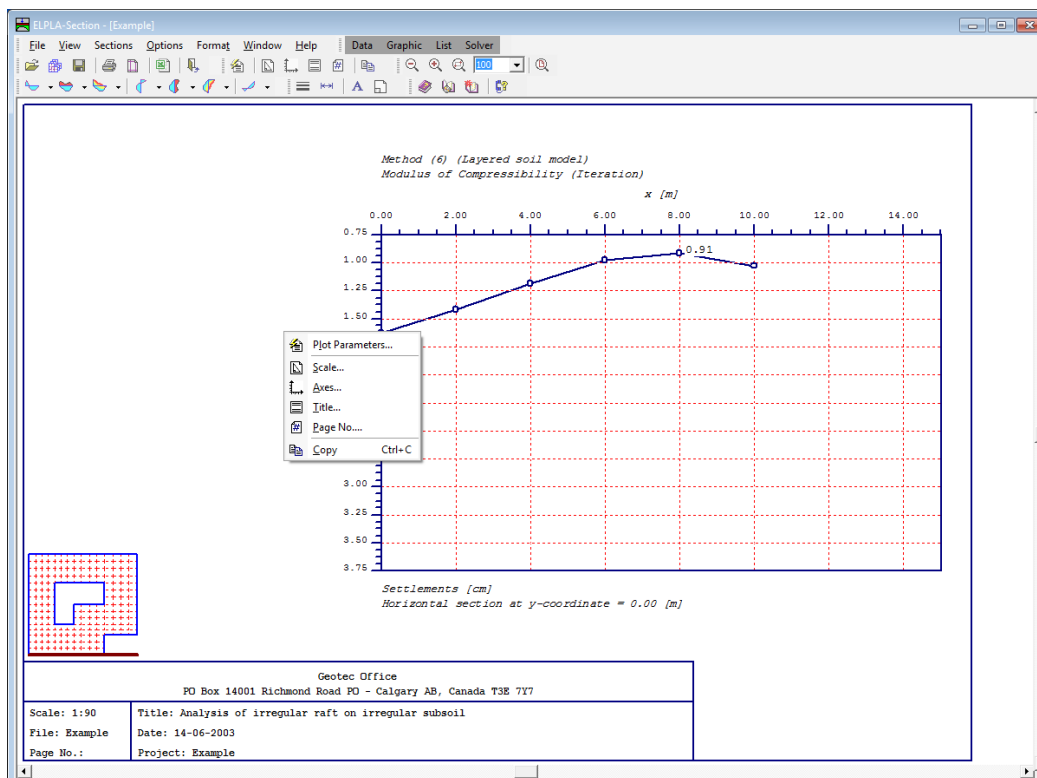

Figure F-42 Menu "Popup- Options"
- By clicking the right mouse Button at any position on the screen, the user can also obtain the Popup- Options-Menu, Figure F-42